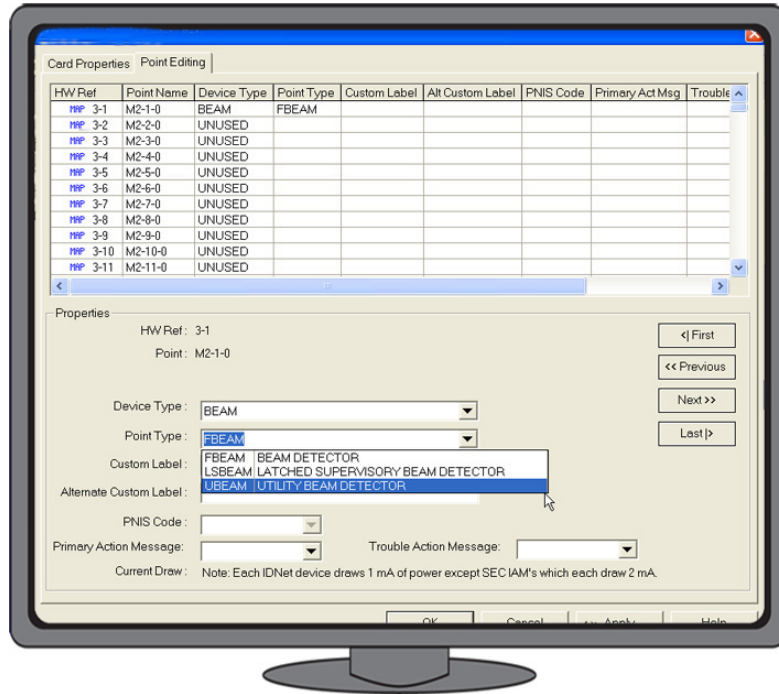

Figure 6: The Point Editing Tab
6. Use the options in the Point Editing tab, shown in Figure 6, to edit the following: